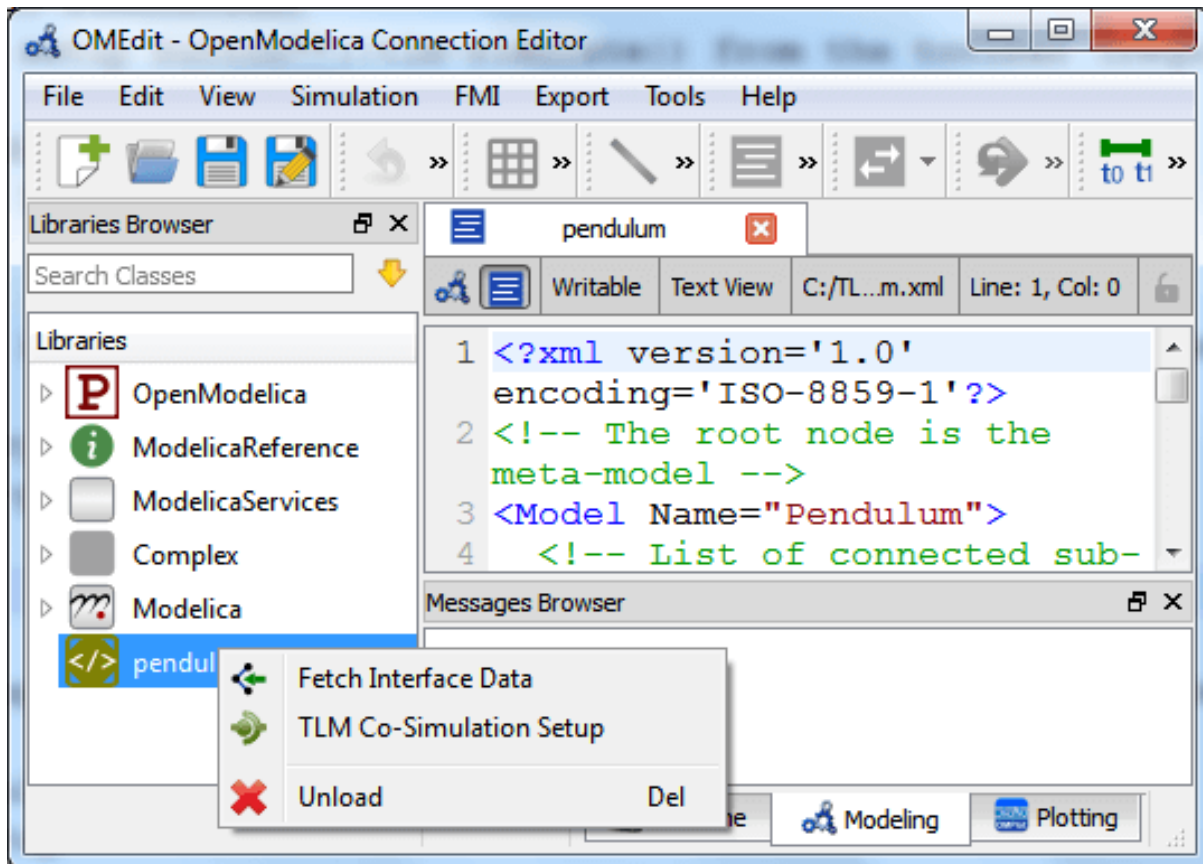

Figure 3.2: Co-simulating and Fetching Interface Data of a MetaModel from the Popup Menu .
- Right click the MetaModel in the **Library Browser** and choose **TLM Co-Simulation setup** from the popup menu (see Figure 3.2)
- Right click the MetaModel in the **Library Browser** and choose **Fetch Interface Data** from the popup menu (see Figure 3.2).